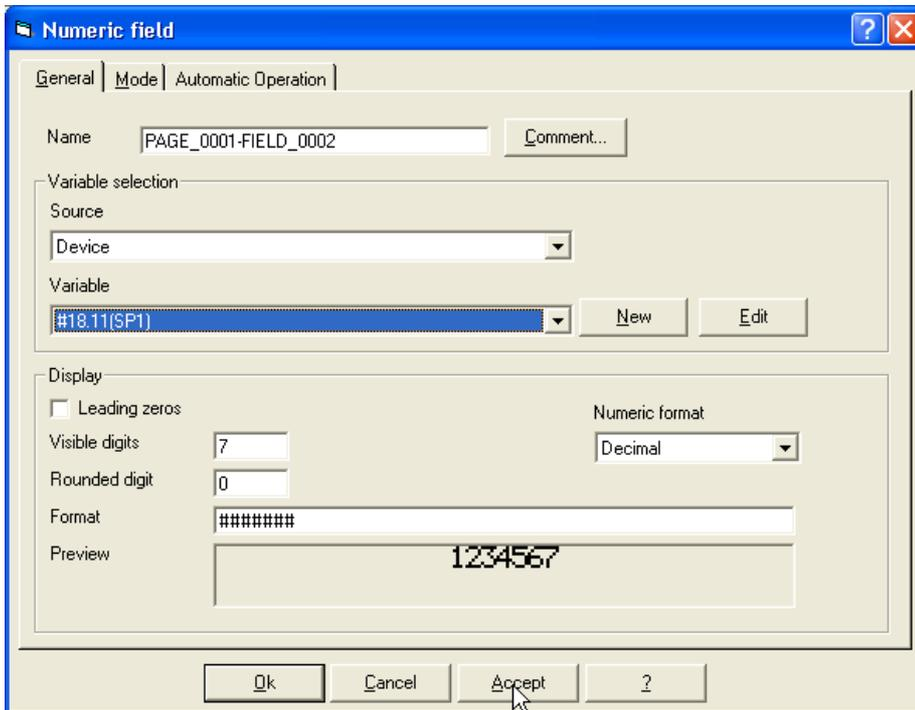

Fig. 21.
3.20 Having already selected the *Numeric Field*, click on the white zone within the *Page No. 0001*, beside the “=” symbol. Make sure that the variable name matches with the description previously typed on that page as shown in Fig. 21. Then click *Accept* and *OK*.